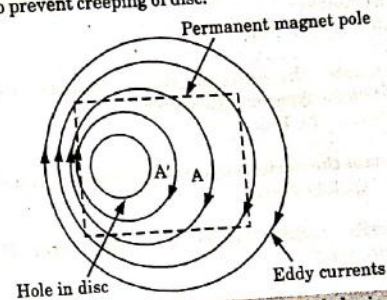

Fig. 1.31.1. Prevention of creep by drilling holes in disc.
3. If a hole is under the edge of a pole, the circular eddy current path in the disc will be distorted as shown in Fig. 1.31.1.